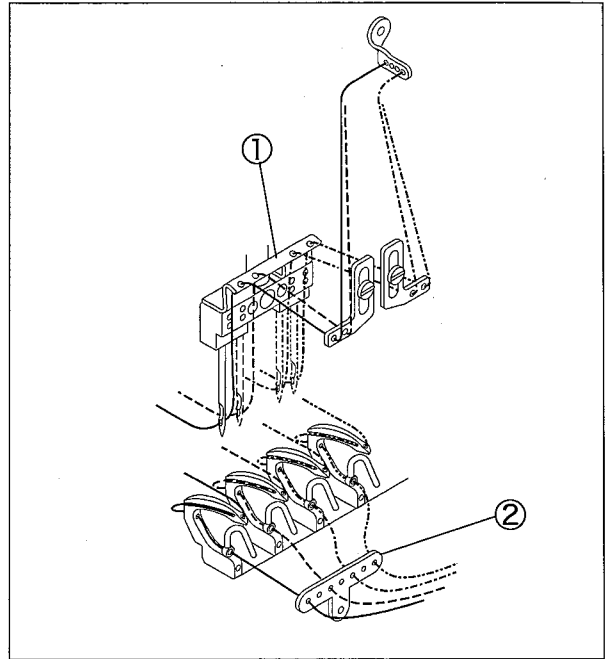

Fig. 9
Change the threading for looper according to the installing position of the needles. The threading of needle thread take-up ① and looper thread eyelet (left) ② has been shown in Fig. 9.